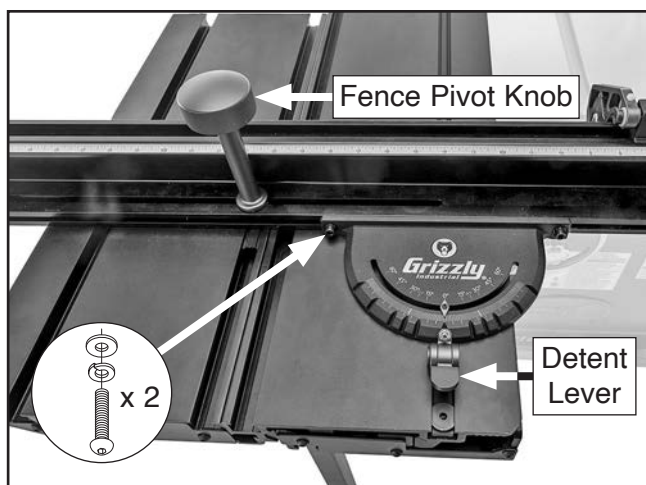

Figure 24. Components for moving fence across table width and adjusting angle.
1. Loosen fence pivot knob (see **Figure 24**).
2. Loosen (2) button head cap screws (see **Figure 24**) securing fence to miter gauge.
2. Press angle detent lever (see **Figure 24**) to raise detent pin, then rotate fence to desired angle.